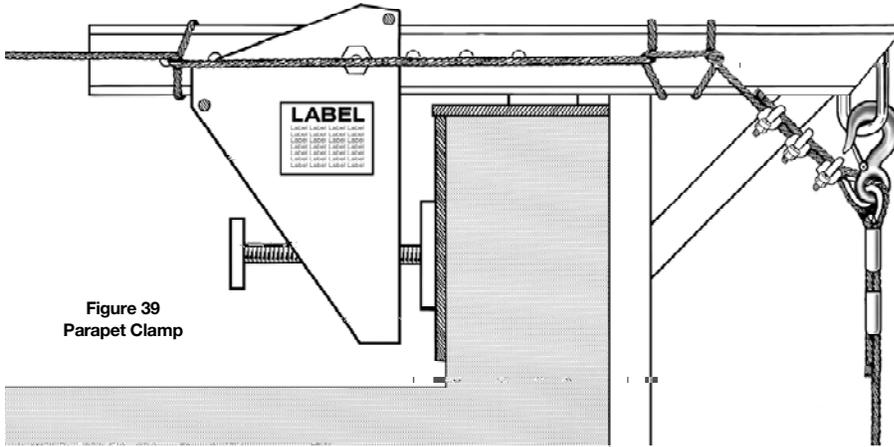

Figure 39
4.10 Parapet Clamps (Figure 39)